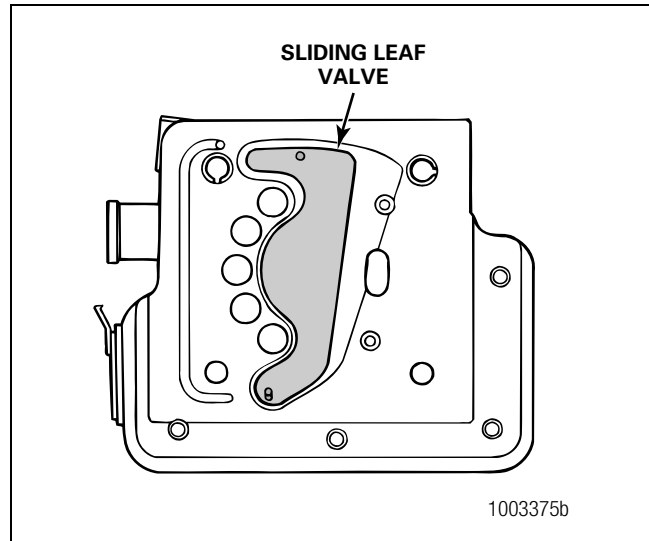

Figure 1.4
4. After unloading, the unloader piston returns the sliding leaf valve to the loaded position. This seals the unloader ports and compression resumes. Figure 1.4.